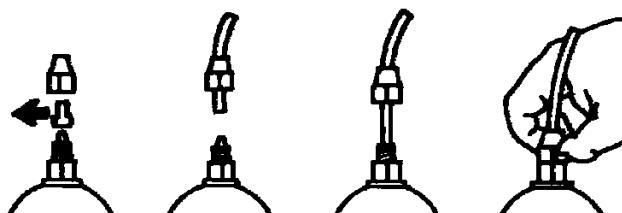

Fig. 7
e. Slide out the two red protection capsules from the fittings; insert the piping all the way onto the conical attachments and lock them using the fixing rings (Fig. 7).